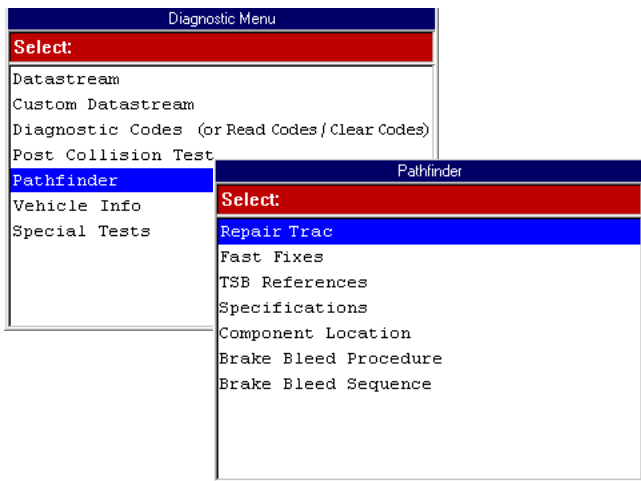

Figure 8.1: Diagnostic Menu Screen and Pathfinder Screen
- 1 Follow the steps in Basic Procedure to display the Pathfinder screen (see Figure 8.1).
- 1 Follow the steps in Basic Procedure on page 49 to display the Pathfinder screen (see Figure 8.1).